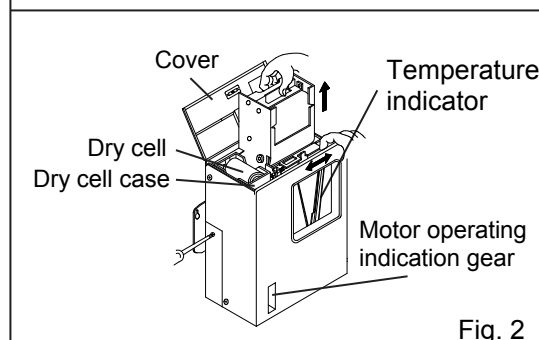

Fig. 2
2. Pull the cartridge up after opening the cover. (See Fig. 2) The cover can be opened by turning the knob counterclockwise.